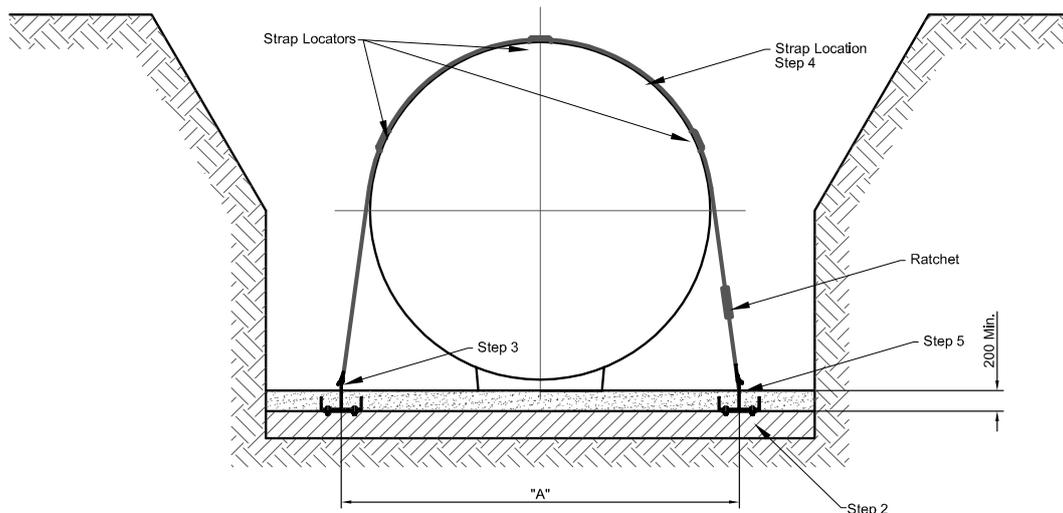

Figure 1
- Step 2** Place Anchors on prepared level base parallel to tanks as shown in Figure 1 and Table 1 Anchor bases should be evenly spaced from center out.
- Step 4** Side the strap locators on to the 'long' length of webbing and position the locators as shown in Figure 1 and 3.